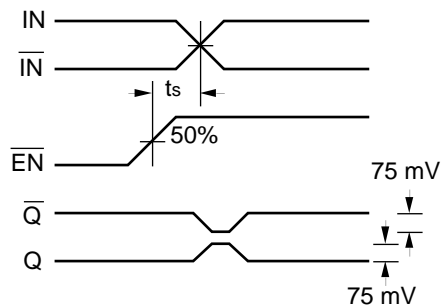

Figure 1. Set-up Time
- The set-up time is the minimum time that \overline{EN} must be asserted prior to the next transition of IN/ \overline{IN} to prevent an output response greater than $\pm 75\text{mV}$ to that IN/ \overline{IN} transition (see Figure 1).